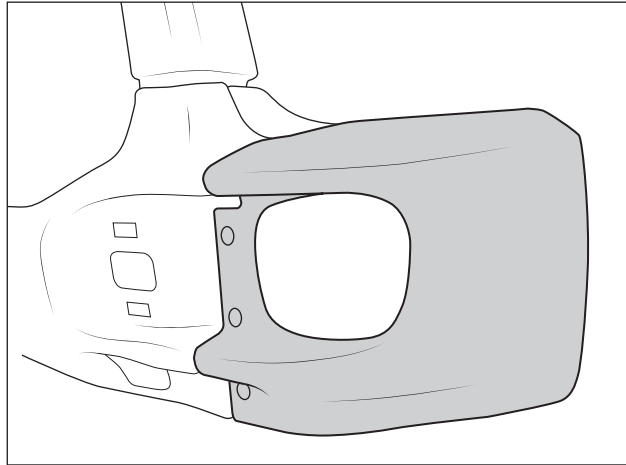

Figure 22
1. Carefully install corners over center section and loosely bolt in place with silver M12x35mm hex bolts, washers and secure at the back with the M12 flange nut in the upper and center holes (next to fog light) (fig. 22). On the lower hole, install black M12x50mm button head bolt and washer and install flange nut on back side. Do not install bolts in bottom holes yet.